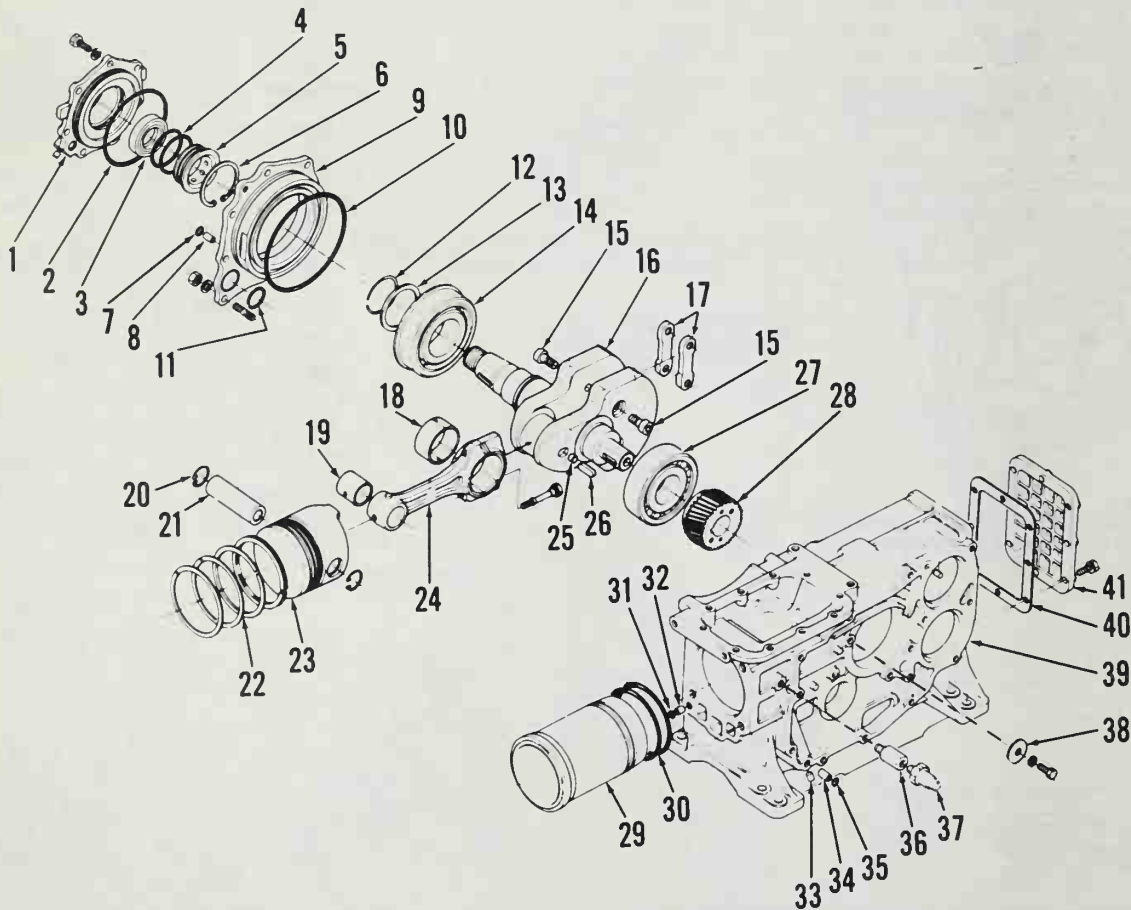

Fig. K1-23 - Exploded view of crankshaft, piston, rod and block assemblies.
Piston and connecting rod are removed as a unit after removing cylinder head, crankcase cover (41—Fig. K1-23) and balancer shafts (9—Fig. K1-22). Unscrew rod cap retaining screws, detach rod cap and extract piston and rod from head end of engine.
R&R AND OVERHAUL. To remove crankshaft, remove flywheel, balancer shafts and piston with rod as previously outlined. Remove seal housing (1 - Fig. K1-23) and unscrew bearing carrier (9) retaining nuts, then withdraw crankshaft and bearing assembly from crank-